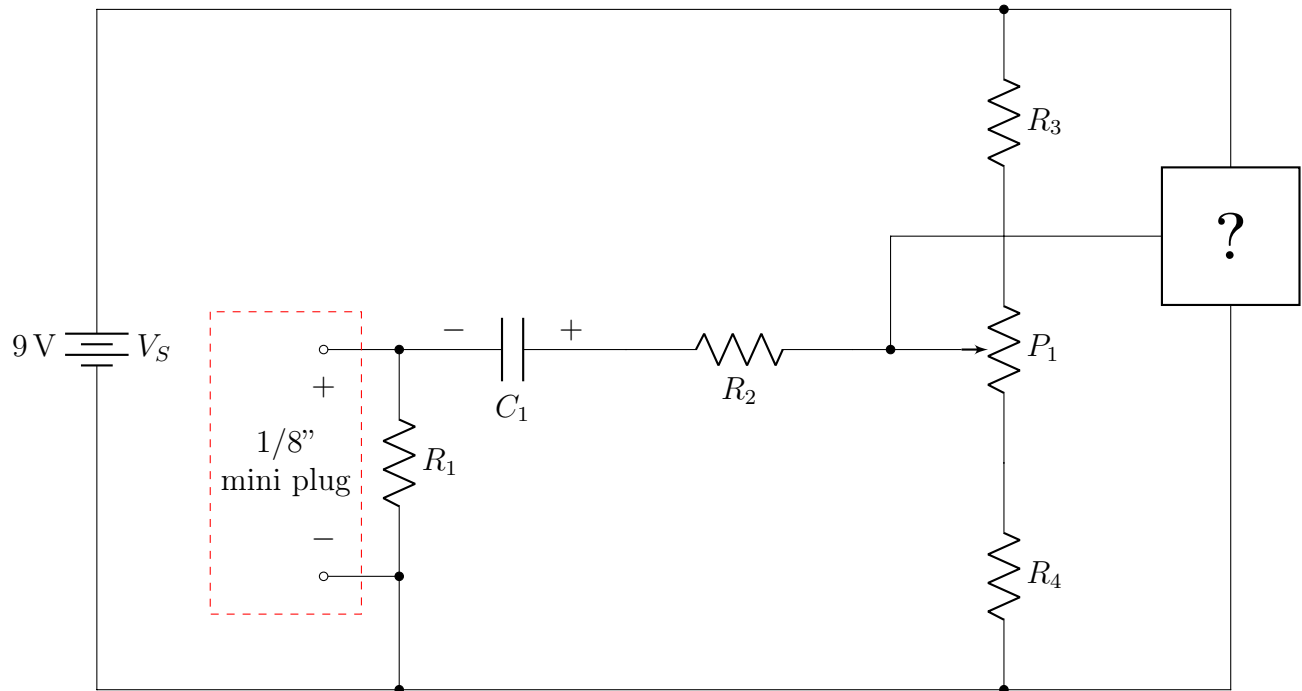

Figure 3: Music Transmitter Circuit with Mystery Load Elements
1. Build the circuit shown in Figure 3. From your knowledge of MOSFETs, LEDs, and current-limiting resistors from this lab and previous labs, determine in which order these 3 circuit elements (i.e. a BS170 MOSFET, a Red LED, and 100 Ω resistor) should be connected to produce an LED whose brightness varies with the amplitude of the input music signal or function generator time-varying signal that will be attached to the 1/8" mini headphone jack. Think about how the BS170 MOSFET should be oriented (Drain and Source pins) in order to be properly biased to turn on when a voltage at the Gate is applied.